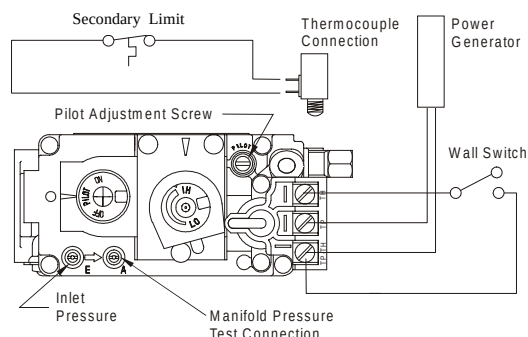

Figure 19. Sit Nova 820 gas valve.
- Have the fireplace installation inspected yearly, including a visual check of the vent system, the burner and the pilot flame. For convenience a 1/8" manifold pressure tap is supplied on the gas valve for a test gauge connection. See Figure 19.
Pilot won't ignite	Disconnect remote wires and try to light pilot. If pilot now works, remote connections are faulty. Check wiring diagram figure 19 .
Main burner will not light	1. Check wiring (see figure 19) 2. Check wall switch for proper connection. 3. Check pilot burner. If extinguished: a. Allow fireplace to cool, then try to relight. b. If condition persists, call a qualified service person.